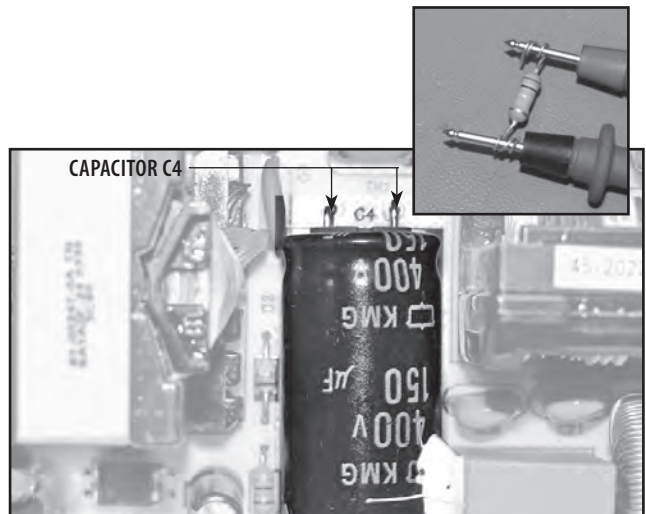

FIGURE 6.8
4. Discharge the 400V Capacitor by wrapping a 10k resistor around the probes of a Multi meter. Touch the leads of the Multi meter to the prongs on the capacitor to discard. See Figure 6.8.